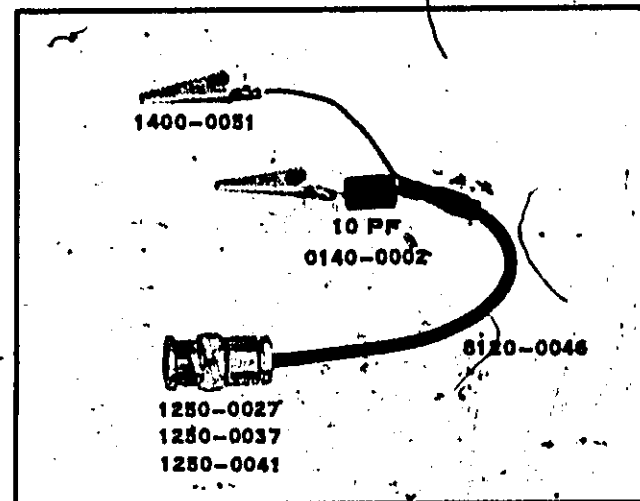

Figure 5-7. Test Clip Lead Assembly
The tuned voltmeter is calibrated for an input from a square law device (output voltage proportional to power input). The db reading must be doubled when using the voltmeter in the circuit of Figure 5-7 (i. e. an indication of 40 db is really 80 db in this application).
m. Remove the signal generator cable from the Filter/Divider. Put "T" on cable and terminate one side with 50 ohms and attach BNC end of Test Clip Lead Assembly to the other. The Test Clip Lead Assembly is shown in Figure 5-7.